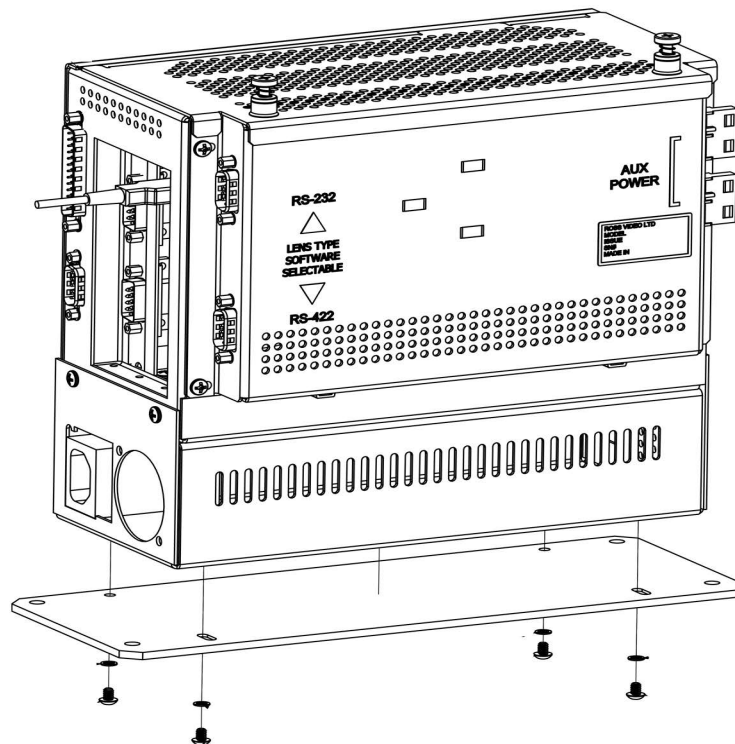

Figure 13 - Mounting Plate, Showing Round Holes and Slotted Holes
- Locate the four mounting bolts on the corners of the Brick PC's mounting plate (**Figure 13**). These bolts hold the Brick PC to the base plate of the pedestal.
1. Locate the four mounting bolts on the corners of the Brick PC's mounting plate (**Figure 13**).